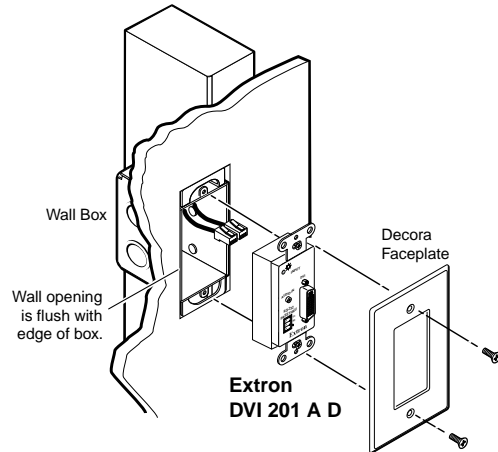

Figure 2-11 — Mounting the transmitter or receiver
2. Mount the transmitter or receiver into the wall box, and attach the supplied Decora faceplate to the unit, as shown in figure 2-11.